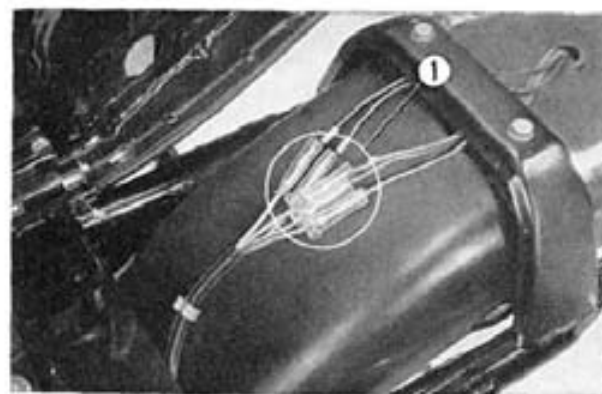

Fig. 16-28 ① Electric leads
10. Remove the leads on the rear fender. (Fig. 16-28)